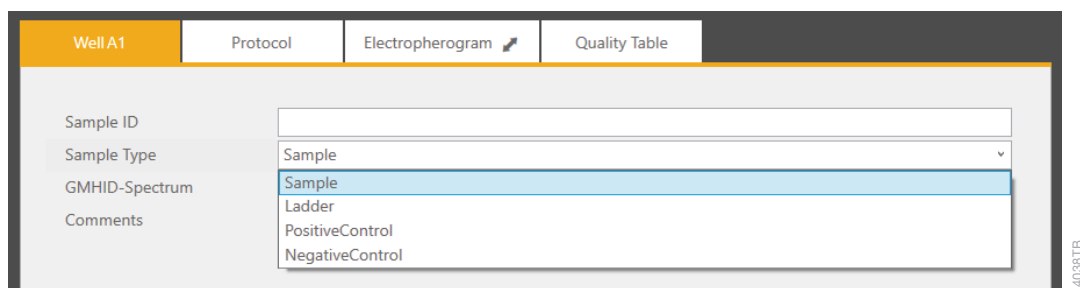

Figure 15. Drop-down options for sample type.
5. Select sample types for each sample or group of samples on the plate. Select the sample(s) then use the drop-down menu (Figure 15) to designate the well(s) as Sample, Ladder, Positive Control or Negative Control. These designations will be included in the output file for downstream analysis.